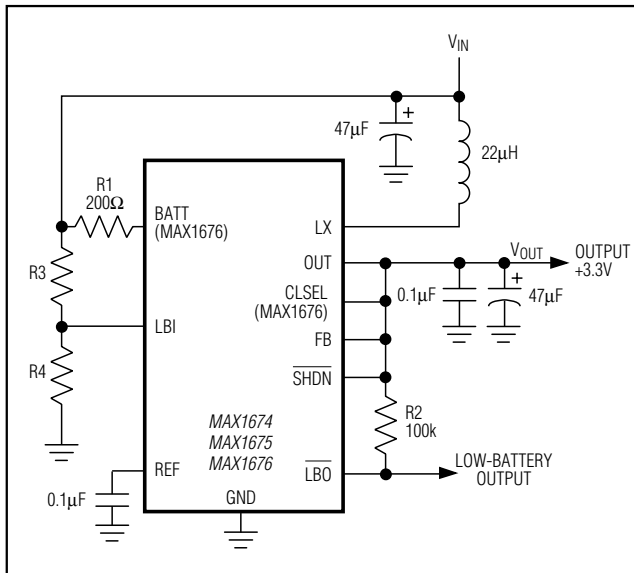

Figure 5. Preset Output Voltage of +3.3V
**Note 2:** Steady-state output current indicates that the device maintains output voltage regulation under load. See Figures 5 and 6.
$V_{OUT}$  can be set to 3.3V or 5.0V by connecting the FB pin to GND (5V) or OUT (3.3V) (Figures 5 and 6).
The MAX1674/MAX1675/MAX1676 contain an on-chip comparator for low-battery detection. If the voltage at LBI falls below the internal reference voltage (1.30V), LBO (an open-drain output) sinks current to GND. The low-battery monitor threshold is set by two resistors, R3 and R4 (Figures 5, 6, and 7). Since the LBI current is less than 50nA, large resistor values ( $R4 \leq 260k\Omega$ ) can be used to minimize loading of the input supply. Calculate R3 using the following equation: